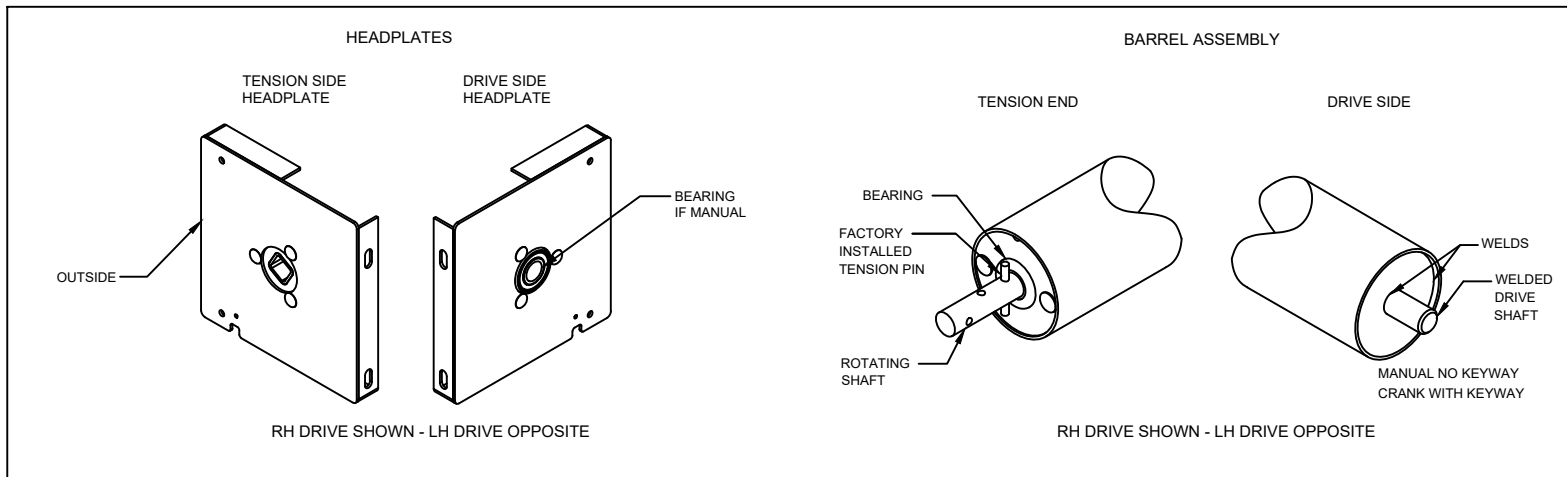

FIGURE 8
a. Proceed at ground level and identify components as shown in Figures 8, 9 and 10.